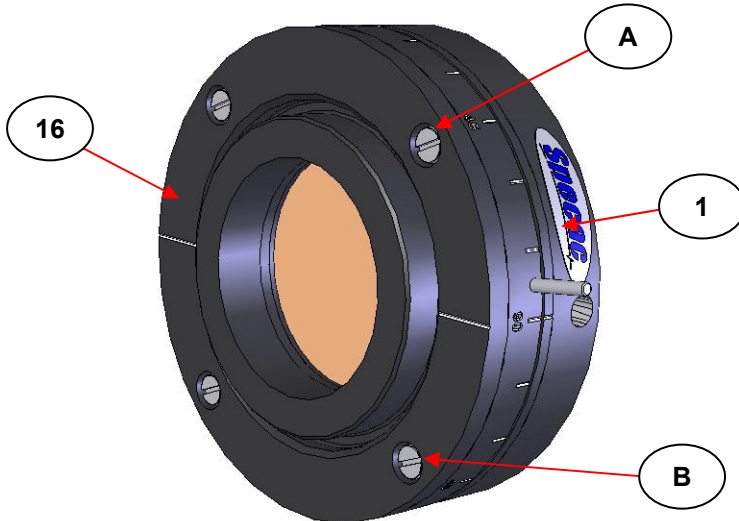

Fig 13. GS12510 Series Rotator Mount With Fitted 38mm Diameter C.A. GS57010 Series Polarizer
When the polarizer has been orientated correctly to the circular plate (16), re-secure the three fixing screws (17) through the holes (18). This complete circular plate with fitted 38mm diameter C.A. GS57010 Series polarizer assembly can now be carefully reinserted into the rotator mount (1), but ensure that it is repositioned **in exactly the same orientation** as when the circular plate (16) was removed, such that the fixing screws (15) pass through the same (A) and (B) designated holes. (See Fig 13.)